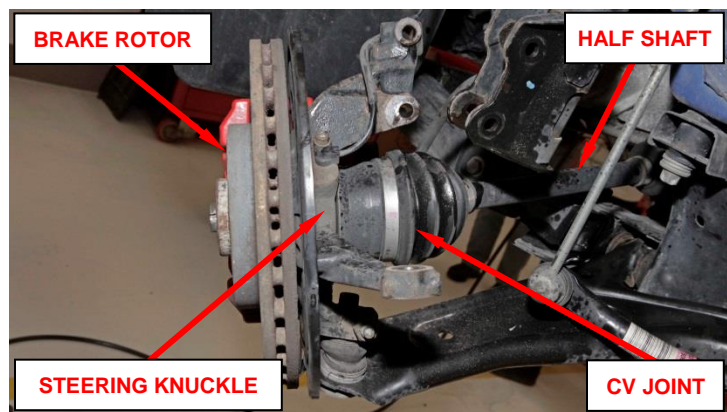

Figure 39 – Half Shaft CV Joint
38. Separate the half shaft Constant Velocity (CV) joint from the wheel hub (Figure 39).